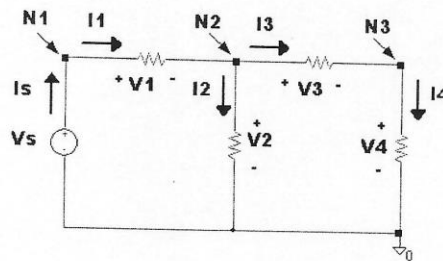

Figure 2.
3. Using 10K ohm resistors, build the circuit in Figure 2 on your protoboard. Take care to lay out your circuit neatly, using wires of proper length where needed. Before connecting power to your circuit, adjust your power supply to 12 volts. Have an instructor look over your circuit before you apply power to your circuit.